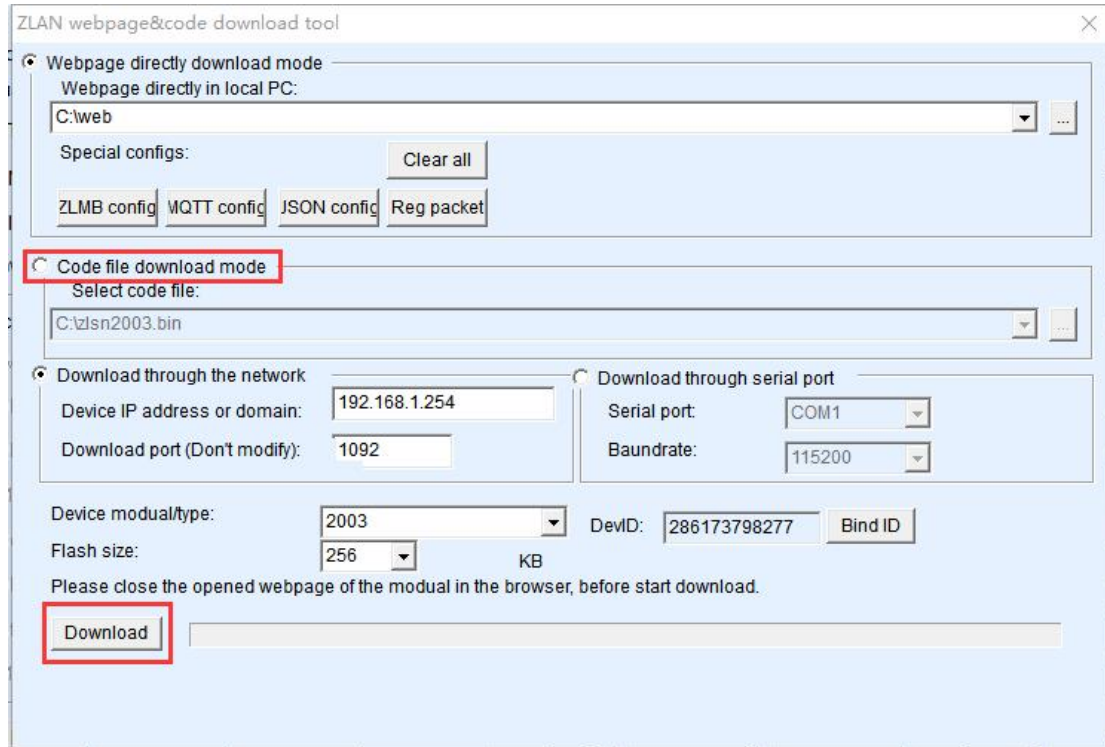

Figure 42 Firmware Upgrade Method
3. As shown in Figure 42, select the "Code File Download" radio button. In the